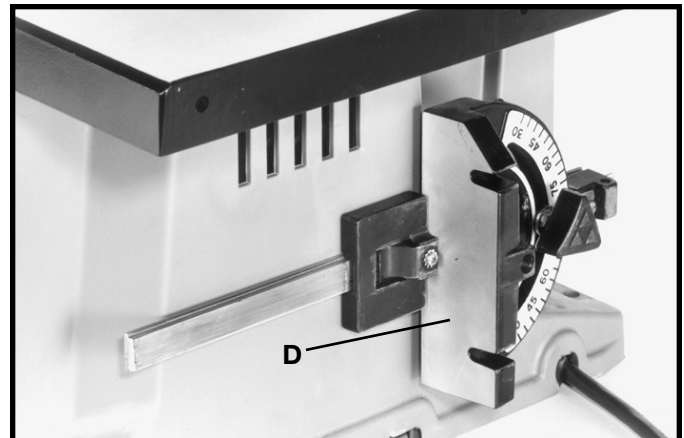

Fig. 30
3. Fig. 30, illustrates the miter gage (D) inserted into the miter gage holder when not in use.